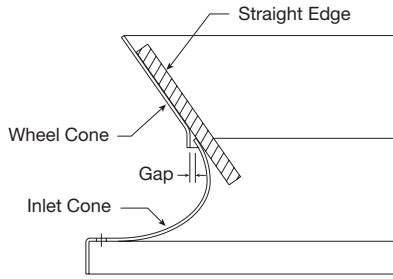

Figure 1
1. The wheel should rotate freely and be aligned as shown in Figure 1. Wheel position is preset and the unit is tested at the factory. Movement may occur during shipment, and realignment may be necessary.
1. Rotate the fan wheel by hand and assure no parts are rubbing. The wheel should rotate freely and be aligned as shown in Figure 1. Wheel position is preset and the unit is tested at the factory.
Alignment - If necessary, adjust wheel position by loosening the wheel hub from the fan shaft so that a straight edge held tight to the wheel cone just touches the inlet cone. Refer to Figure 1.
4. Adjust the axial location of the wheel in the fan relative to the inlet cone (venturi) as shown in Figure 1, page 5. Then tighten the socket head cap screws an eighth turn at a time in an alternating fashion and to a torque of 10 ft·lbs for QT bushings and 9 ft·lbs for SD bushings.
Wheel improperly aligned and rubbing	Center wheel on inlet cone, see Figure 1 (page 5).
Improper wheel alignment	Center wheel on inlet cone, see Figure 1 (page 5).